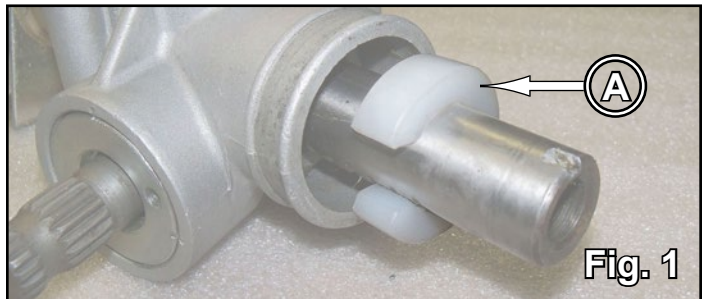

Fig. 1
1. Install Front Bracket (A) to Frame. Insert 25mm Lg. Spacers (H) and secure using (2) each M10-1.50 x 60mm Lg. HHCS (L) and M10-1.50 Nylock Nuts (G). See Fig. 1.
1. From stock A-Arms, transfer Zerk Grease Fittings and Bushings into new A-Arms. Install stock Ball Joints into Front Lower A-Arms (N). See Figs. 1 - 1a.
3. Install Steering Stop Bushing (A) onto shaft. See Figs. 1 - 1a.
1. Install Ball and Socket to Rack and Pinion. Use Loctite. See Fig. 1.
2. Remove, and keep, Jam Nut from Ball and Socket. See Fig. 1.
2. Install M6 Zerk Fittings (F) to Sway Bar Brackets (E).
3. Install Sway Bar Brackets (E) and stock Sway Bar Mount; Secure with M8-1.25 x 25mm Lg. HHCS (B), M8 Flat Washers (C), and M8-1.25 Nylock Nuts (D). See Fig. 1.